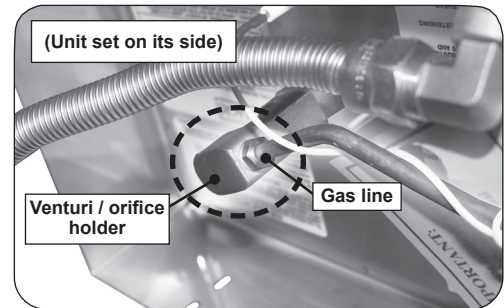

Fig. 32-2 Venturi / orifice holder
5. Detach the gas line from the venturi/orifice holder to fully remove (see Fig. 32-2).